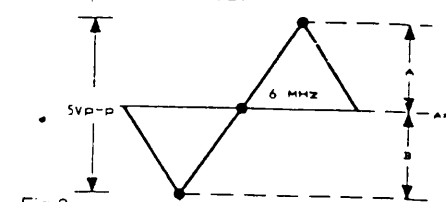

Fig 8.
- Adjust T103 so sound carrier is centred as in Fig. 8.
- Confirm the waveform as in Fig. 8.